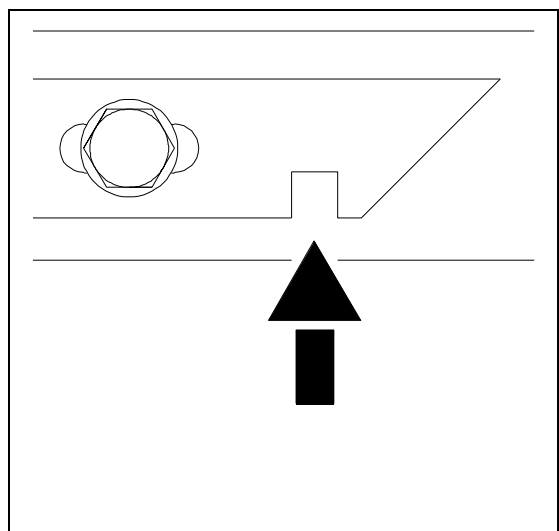

Figure 11
- 2 Place the upper locking strip right in front of the notch (Figure 11).